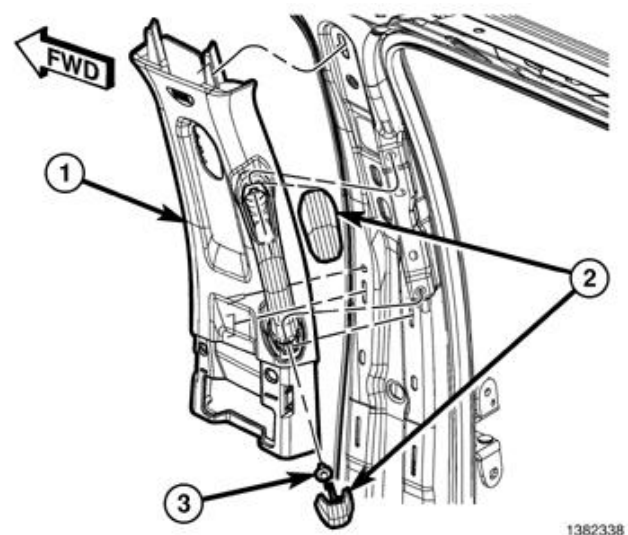

Figure 27 – B-Pillar Upper Trim Panel
12. On the B-pillar, use a small flat-bladed tool to carefully open the two fastener covers (2) located on the grab handle (Figure 27).
13. Remove the two bolts (3) that secure the grab handle to the B pillar (Figure 27).
14. Using a trim stick C-4755 or equivalent, release the retaining clips that secure the B pillar upper trim panel (1) then position the trim panel out of the way. It is not necessary to remove the seat belt from the trim panel (Figure 27).
60. Install the B-pillar upper trim panel (1) and engage the retaining clips fully (Figure 27).
61. Install the grab handle bolts and tighten to 5 N·m (44 in. lbs.). Close the fastener covers (2) (Figure 27).